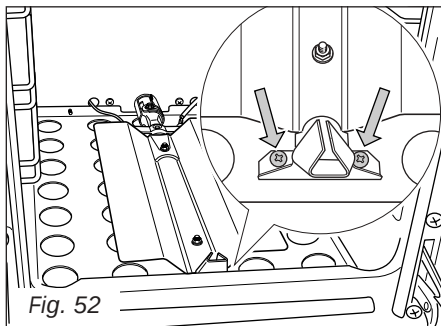

Fig. 52
- Remove the 2 burner securing screws (fig. 52).